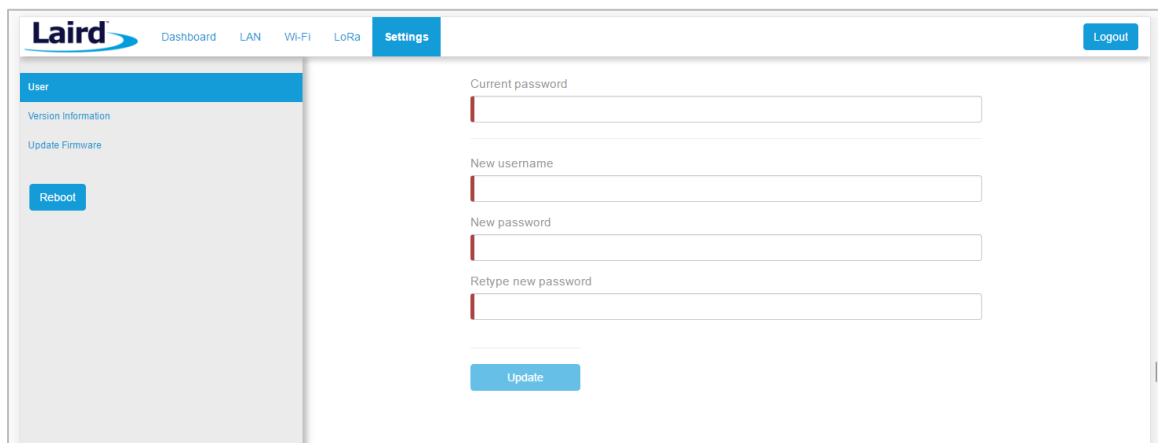

Figure 32: Change user name and password
3. In the main menu, click the **Settings** tab. Then in the left menu, click the **User** tab (Figure 32). Enter the current password, and then the new desired user name and password. Click **Update**.